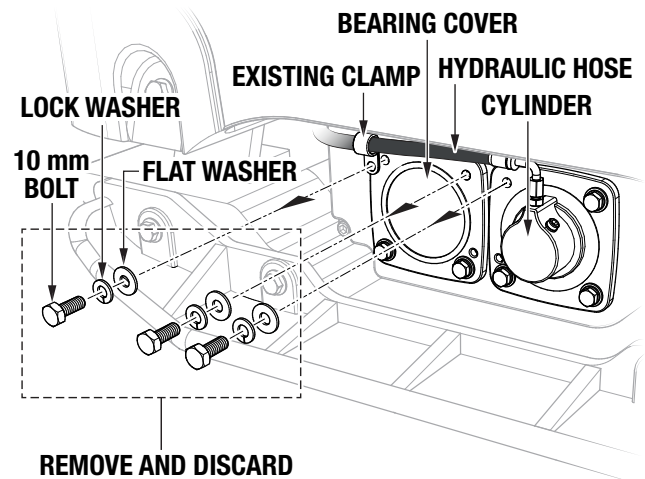

Figure 6. Bolt Removal
1. Remove and discard the **top two** 10 mm bolts, lock washers, and flat washers securing the bearing cover to the vibrator (Figure 6). Leave the existing cable clamp on the hydraulic hose as shown.
2. Remove and discard the **top left** 10 mm bolt, lock washer, and flat washer securing the cylinder to the vibrator (Figure 6).